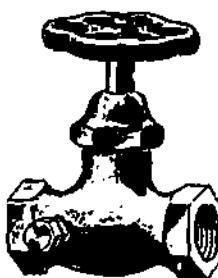

Figure 7-13. Compression Stop and Drain
1. This valve, shown in threaded pattern in Figure 7-13, is also referred to as a compression stop and waste.